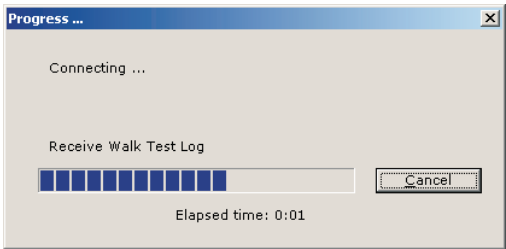
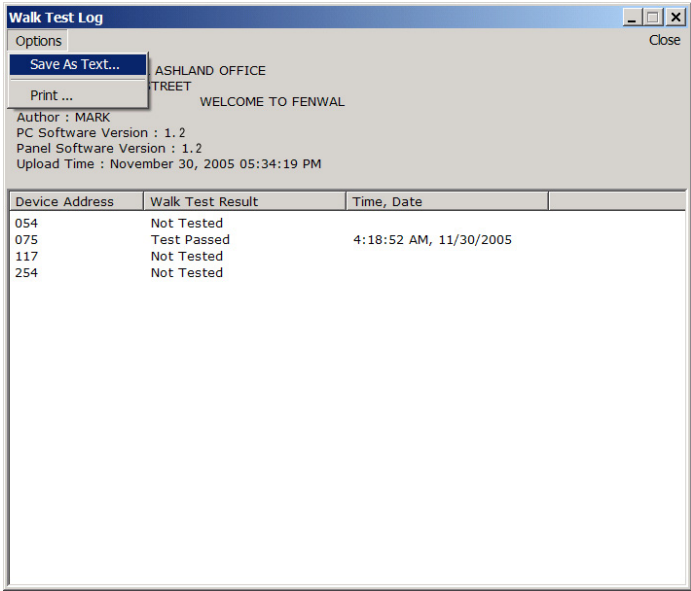

Figure 4-36. Receive Walk Test Log Progress
Figure 4-37. Walk Test Log
4. Select **<OK>**. In response, progression of the walk test log reception (Figure 4-36) is displayed. When it is complete, the walk test log (Figure 4-37) is displayed. Within the Walk Test log, there are two menu options: Save As and Print.